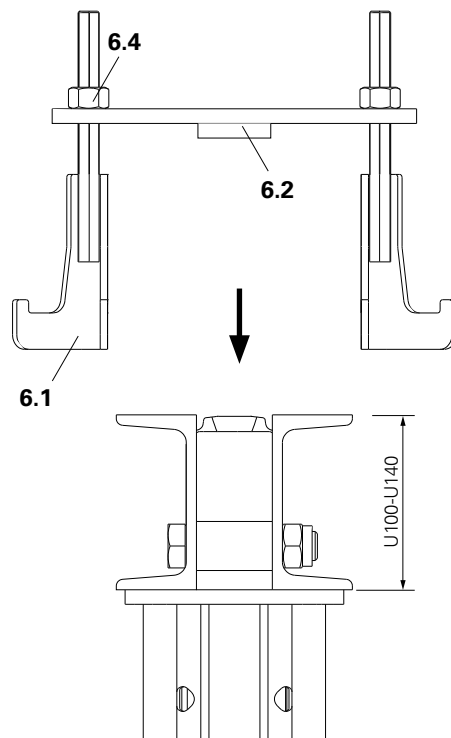

Fig. A6.01a
3. Guide the strap over the SRU Steel Waler from the top. (Fig. A6.01a)